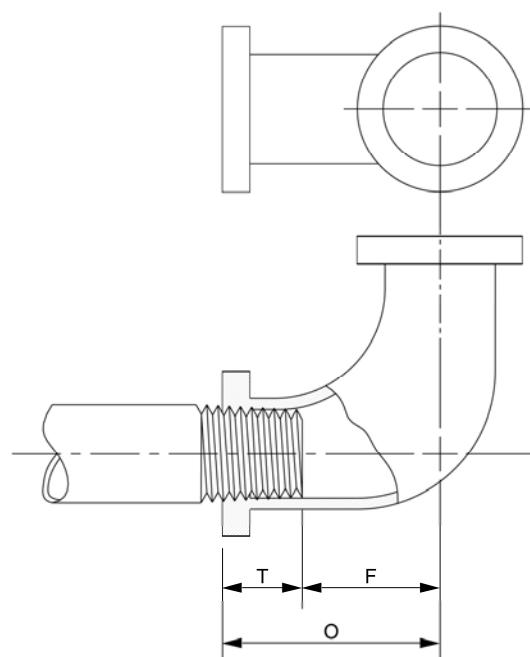

Figure 3-2. Fitting allowances.
7. Give a brief description of the following terms (see Figure 3-2):